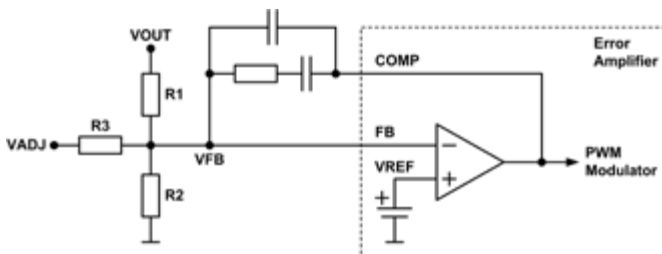

Figure 1 - Error Amplifier
Each switch mode power supply has an error amplifier integrated. This can be a normal operational amplifier like shown in Figure 1 or a transconductance amplifier. The function is always identical and the implementation of the output voltage adjustment can be done in the same way, too. The error amplifier compares the voltage of the feedback voltage divider (VFB) with its internal reference (VREF) and sets the duty cycle (PWM) such that the difference is zero. As the reference voltage is typically in the range of a few hundreds of millivolts up to single volts, the output voltage is divided by the feedback voltage divider (R1, R2). Between the input (FB) and the output (COMP) of the error amplifier, the compensation network is connected. Properly designed, it ensures good regulation of the output voltage under all line and load conditions.